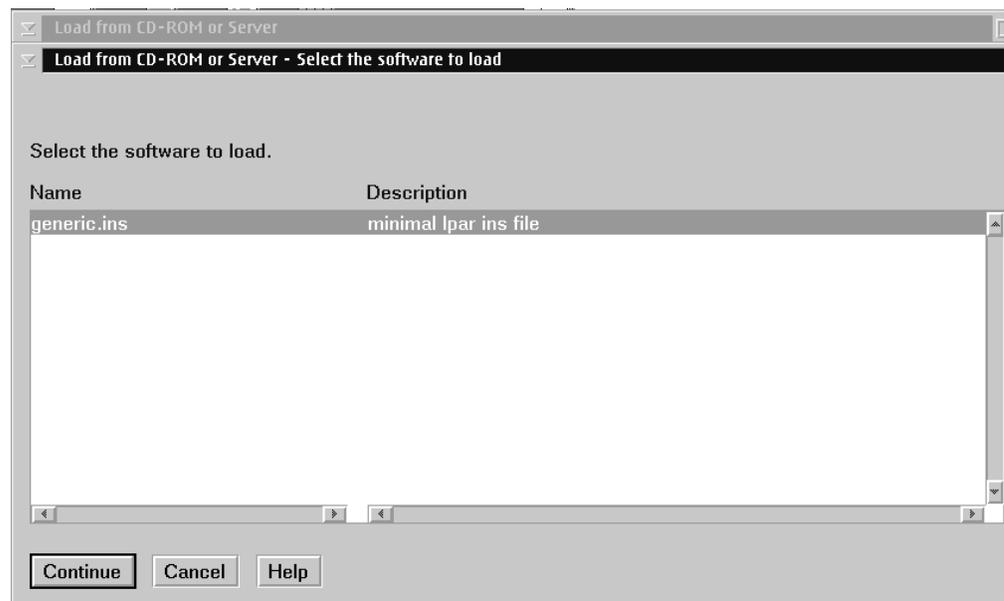

Figure 65. Select the software to load panel
7. Click **Continue** to display the “Select the software to load” panel (Figure 65).